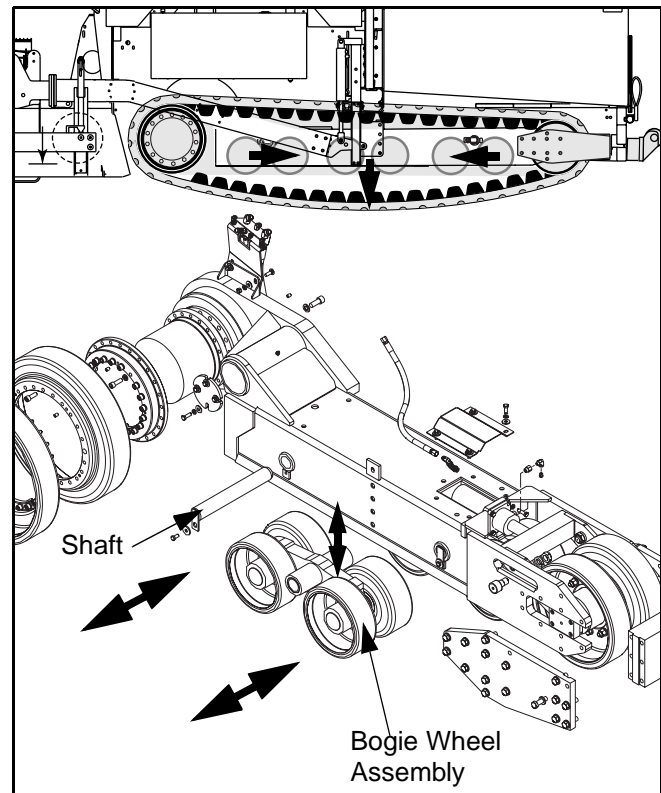

Figure 6 - 67 Bogie Wheel Assembly Removal
- 2) Remove shaft from track frame that holds center bogie wheel assembly to frame (Figure 6 - 67). This will allow the assembly to drop onto the track.